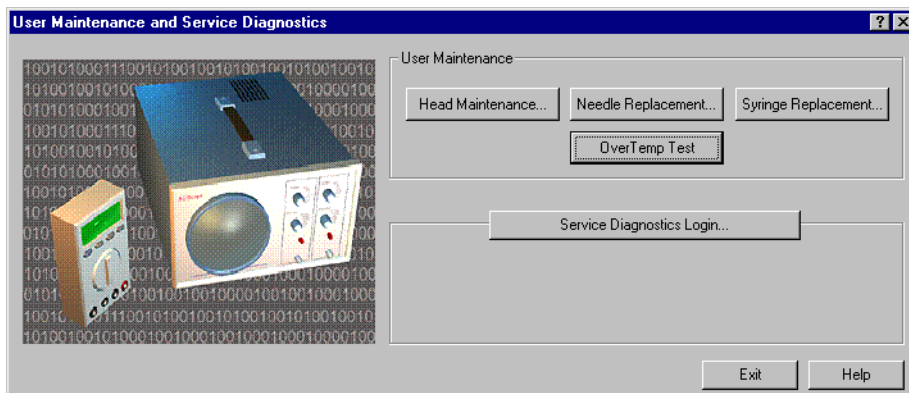

Figure 5-6 User Maintenance and Service Diagnostics Dialog Box
2. Click Diagnostics. The User Maintenance and Service Diagnostics dialog box appears (Figure 5-6).